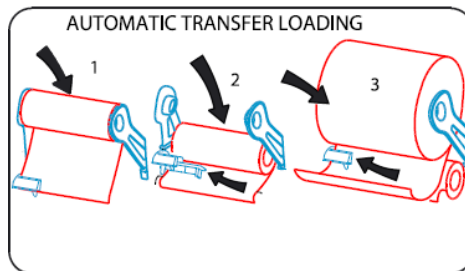

Fig. 10
1. Transfer 4" diameter [Ø102] (or smaller) stub roll from wire holders (Fig. 10, step 1) without removing paper from rollers to the stub roll holders located in the bottom back of the mechanism and the Stub Roll Paper Monitor must be positioned over the stub roll paper web without any wrinkles in the web, as indicated by arrow in Fig. 10, step 2 above.
2. Install new full paper roll into wire holders (Fig. 10, step 3) with paper end unwinding from the back of the roll and place the paper end on **TOP** of the Stub Roll Paper Monitor & **UNDER** the transfer bar arm as shown in Fig. 10, step 3 above. Paper from the new roll will automatically feed when the stub roll of paper runs out.